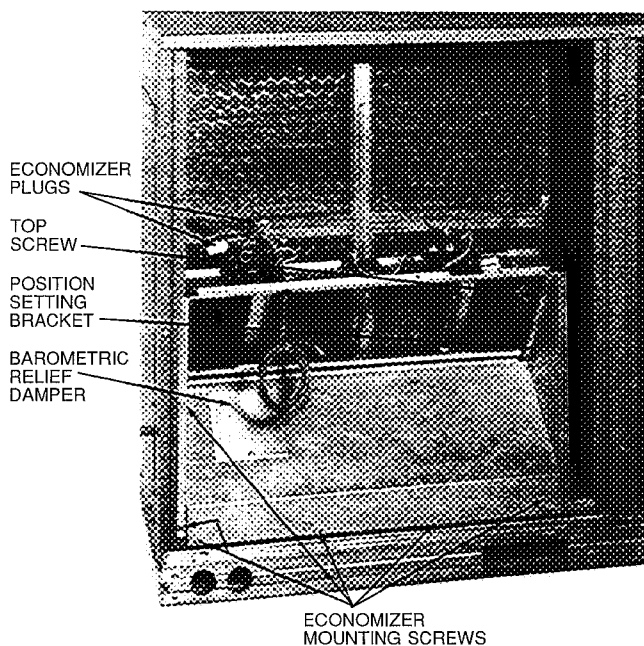

Fig. 16 - Economizer Installed in Unit
5. Slide economizer or two-position damper into unit and secure with screws. See Fig. 16. To convert to horizontal discharge application:
6. Insert economizer/two-position damper plug into economizer/two-position damper harness. Remove tape from barometric relief damper. See Fig. 16.
Adjust minimum position setting by adjusting the screws on the position setting bracket. (See Fig. 16.) Slide bracket